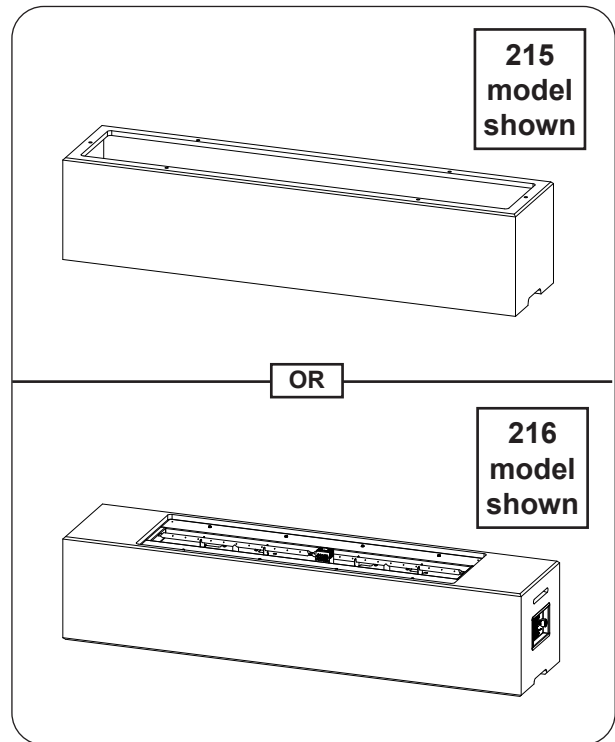

Fig. 26-1 Place unit/base
1. **CAREFULLY** place the unit/base in an appropriate location (see Fig. 26-1, and refer back to the LOCATION section if needed).